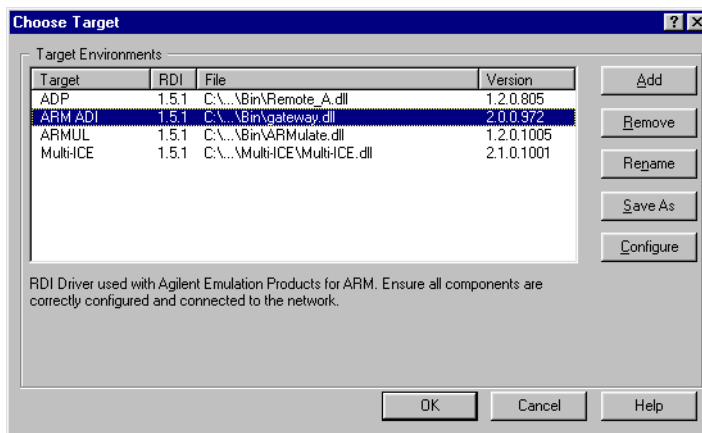

Figure B-6 Debugger Configuration dialog box
2. Select **Options** → **Configure Target**, as shown in Figure B-6.